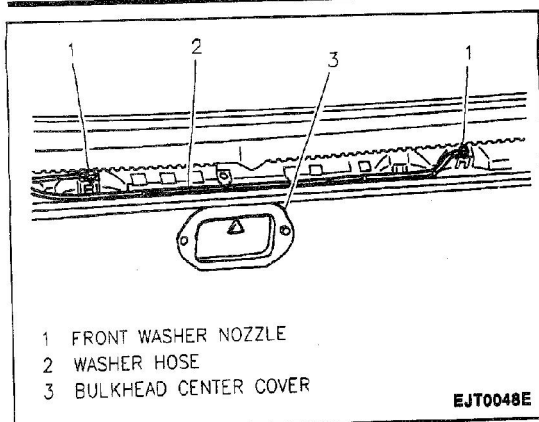

Figure 6—Bulkhead Center Cover
8. Two bolts and bulkhead center cover, exposing wiper linkage (Figure 6).